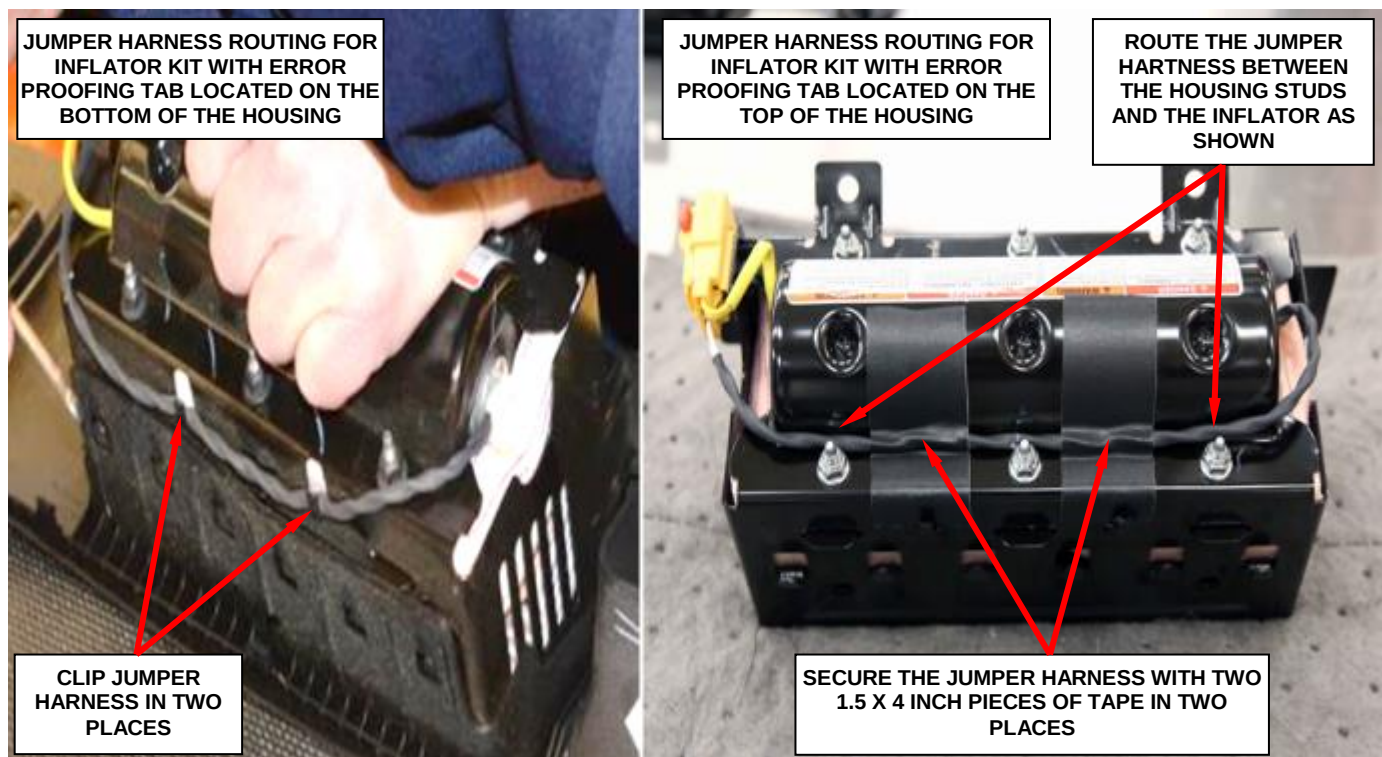

Figure 28 – Wire Jumper Routing
NOTE: The wire harness jumper routing is different depending on the location of the error proofing tab (Figure 28).
- p. Route the wire harness jumper on the housing (Figure 28).
NOTE: Use tape part number 68303542AB or equivalent. One 68303542AB patch can be cut into two pieces approximately 1.5 x 4 inches (Figure 28).